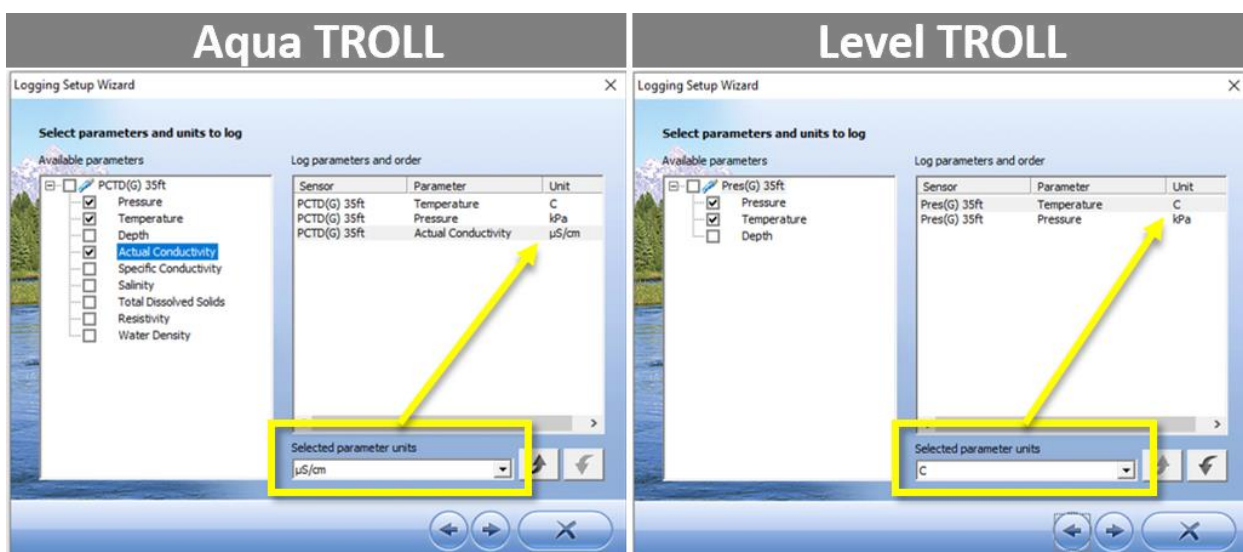

Figure 13. Set the Parameters and Units to log for the Aqua (Left) or Level TROLL (Right)
- Set the parameters and units to log for the Aqua or Level Troll referencing the information in Table 3 and Table 4. Each parameter you select requires a unit selection. After selecting parameters, select a unit from the dropdown for each parameter under **Log parameters and order** field (Figure 13).